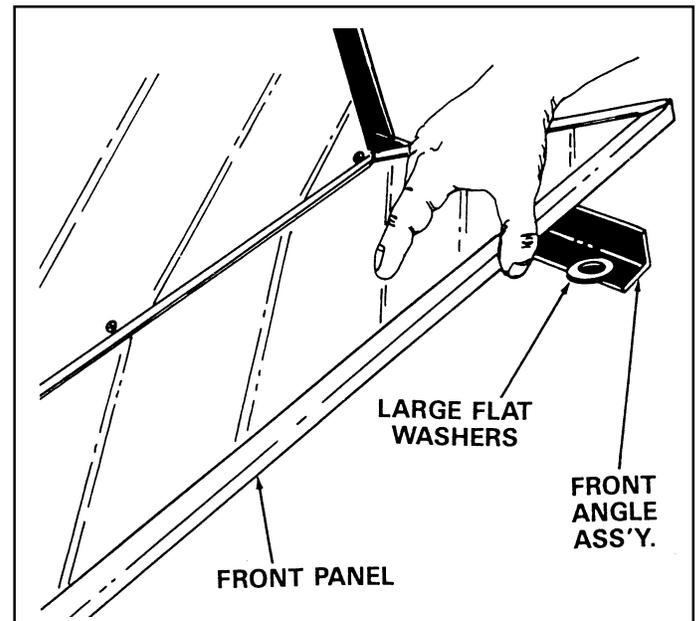

FIGURE 6
- Lay the front panel down onto the front angle assembly, on top of the four large  $1-1/2"$  dia. washers. See figure 6.